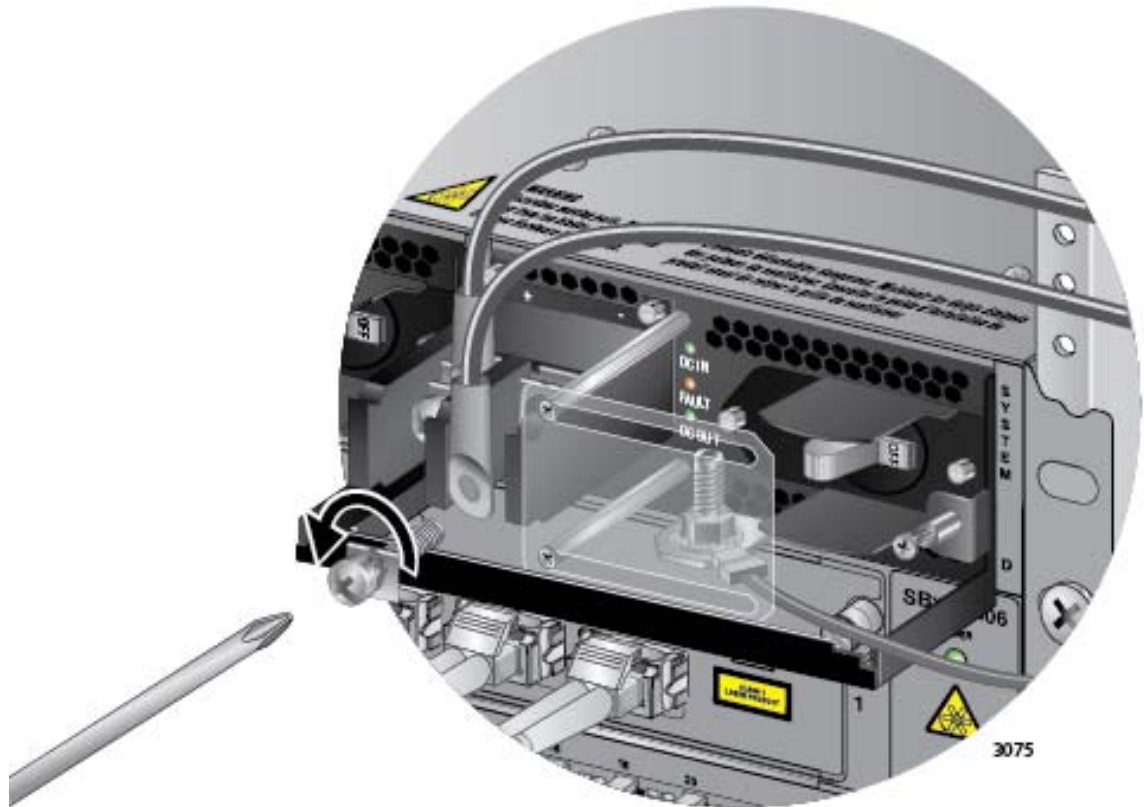

Figure 154. Removing the Negative Lead Wire
5. Use a #3 screwdriver to remove the negative (-) lead wire from the terminal block. The negative lead wire is on the right. Refer to Figure 154 on page 239.